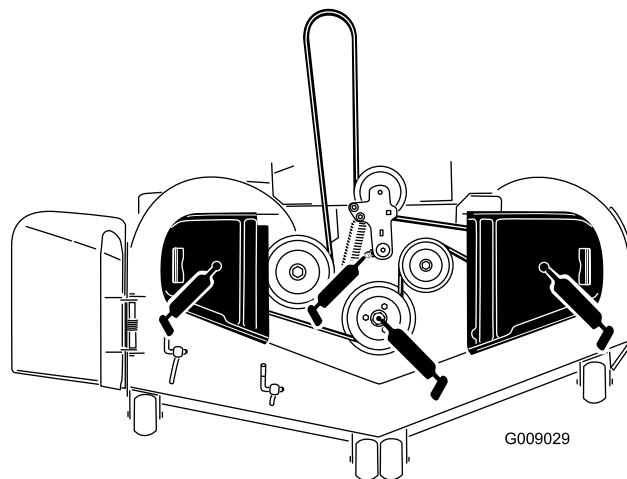

Figure 39
3. Grease the mower deck idler pulley pivot until grease come out the bottom (Figure 39).
4. Grease the 3 spindle bearings until grease comes out the lower seals (Figure 39).
5. Grease the drive belt idler arm (Figure 39).